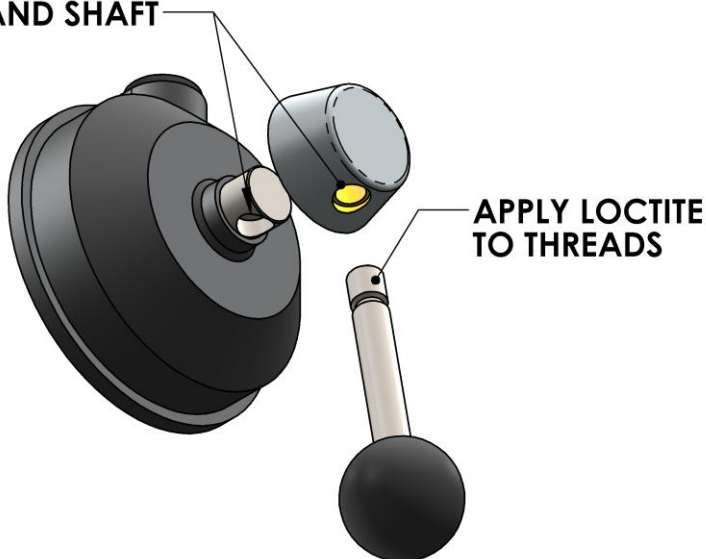

Figure 23: Re-installing handle hub and handle
17. Apply a Loctite 243 to the threads of the handle shaft as shown in Figure 23.
18. Place the handle hub over the end of the cam shaft ensuring the hole on the on hub lines up with the hole on the cam shaft as shown in Figure 23.